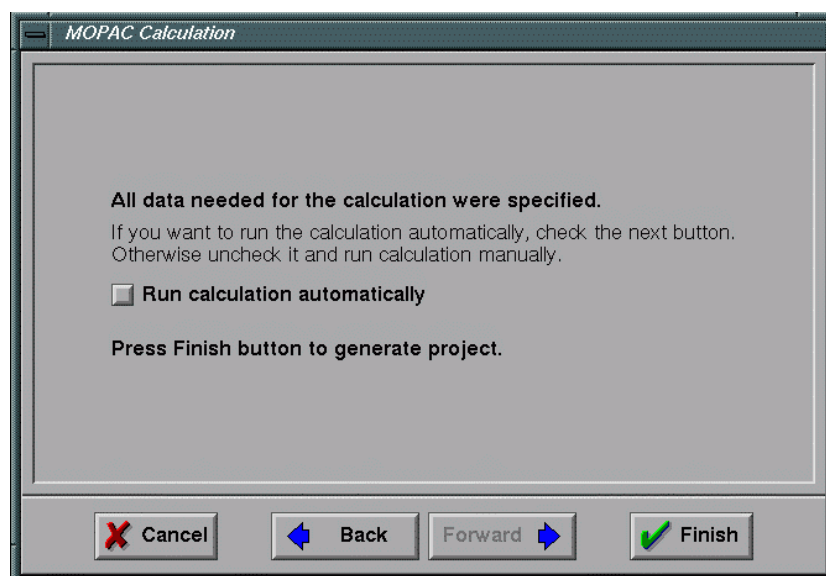

Fig 14.12 Window for finalizing of the optimization wizard
- 9) Finalize the optimization project (**Fig 14.12**). All parameters necessary for calculation were entered and the user can either start the calculation on current computer or generate the input files, move them to another computer and run the calculation there. Press the *Finish* button to complete the wizard.